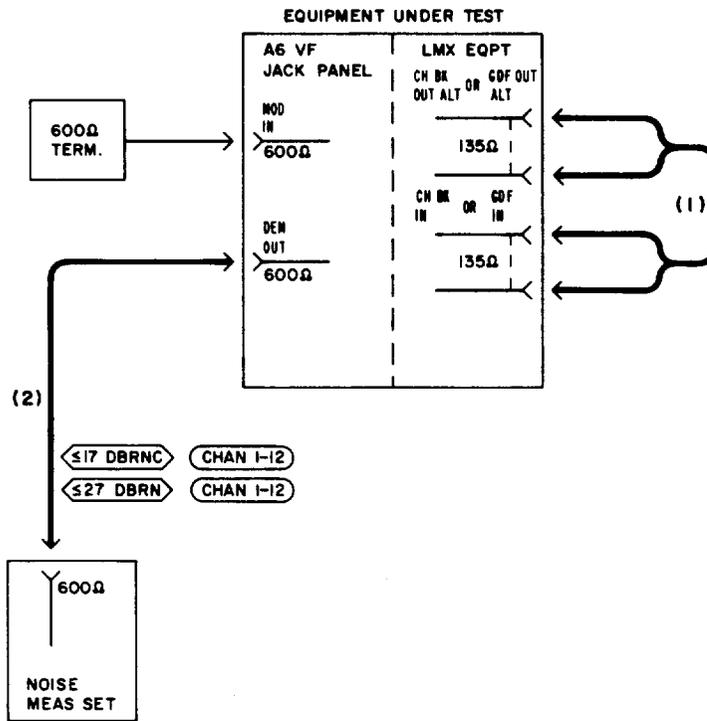

Fig. 20—Patching Diagram—Noise Test—Unequal-Level Looping
10	Insert a 262B plug (600-ohm termination) in the MOD IN jack for Channel 1 of the channel bank under test (Fig. 20).
11	Connect the NMS to the DEM OUT jack for the channel under test [patch (2), Fig. 20].
19	Remove patch (2), Fig. 20.
22	At the LMX equipment, remove patch (1), Fig. 20.